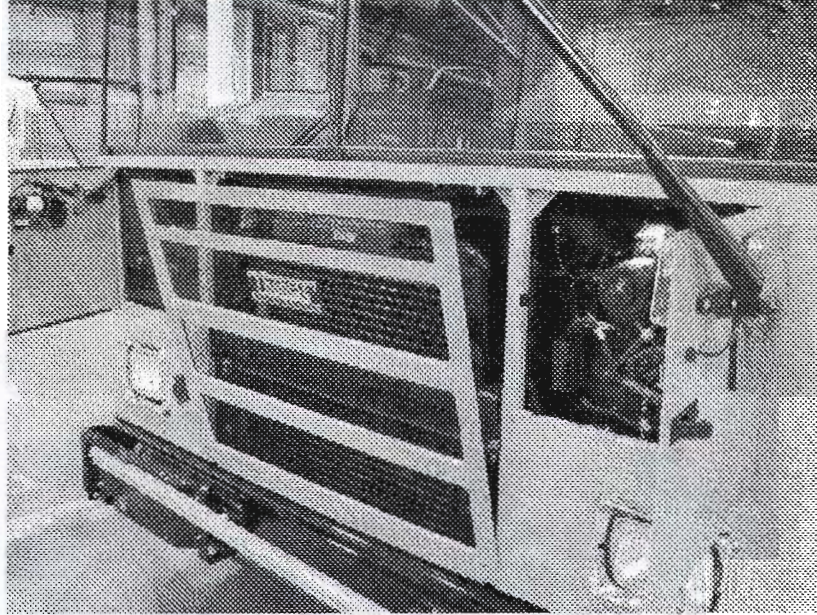

FIGURE 2
4. Open both windshield wiper access doors. Pull the top of the radiator grill out until it stops by the catch hook. Pull up on the grill to unhinge the bottom and remove the grill. **Figure 2**